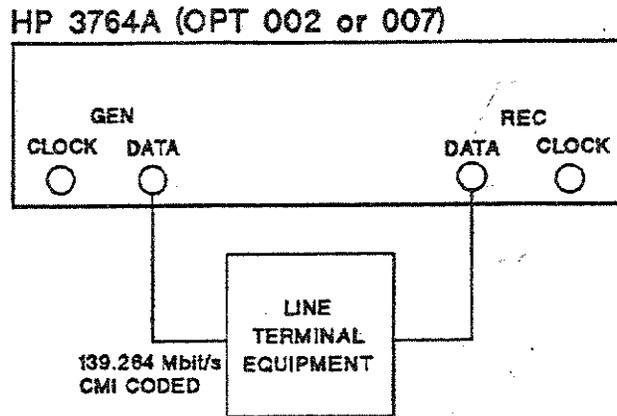

Figure 2-5. Jitter Amplitude Measurement (139.264 Mbit/s CMI Data)
3. Connect up the equipment as shown in Figure 2-5.